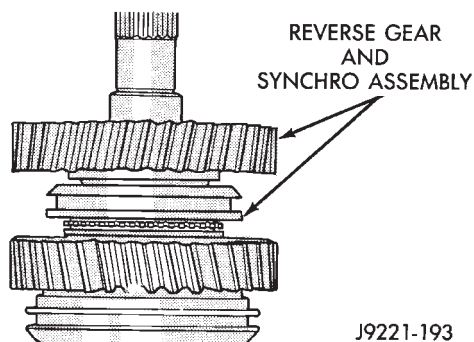

Fig. 117 Reverse Gear Installation
(34) Install reverse gear and synchro assembly on mainshaft (Fig. 117). Rotate assembly until stop ring lugs engage in hub slots and gear drops into fully seated position.